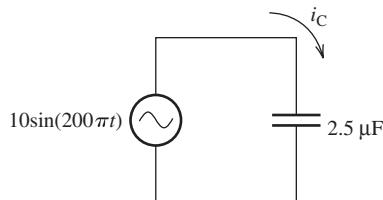

FIGURE P4.11 Circuit for Problem 4.11.
- 4.11** (A) The voltage across a 2.5- μF capacitor is $10 \sin(200\pi t)$ V as shown in Figure P4.11. Find an expression for (a) i_C through the capacitor and (b) the stored energy.